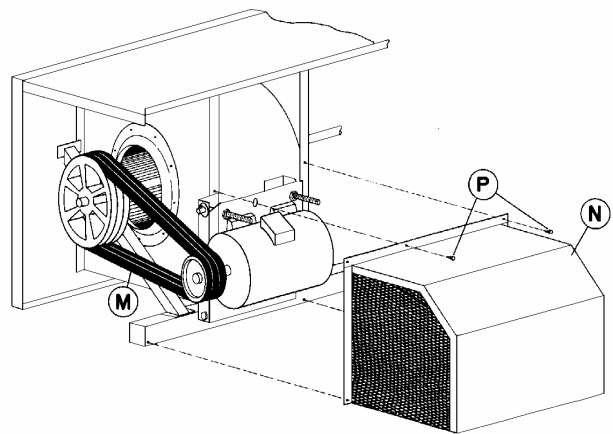

Figure 17 - Motor Guard and Powerband Belt Installation
6. Install the belts **M** around the fan sheave and motor sheave as Shown in Figure 17. Tighten belts by adjusting nuts on J-bolts. Do not over tighten the belts. When the belts are properly adjusted, the deflection at the center of the belt should be approximately 13 mm with moderate hand pressure.